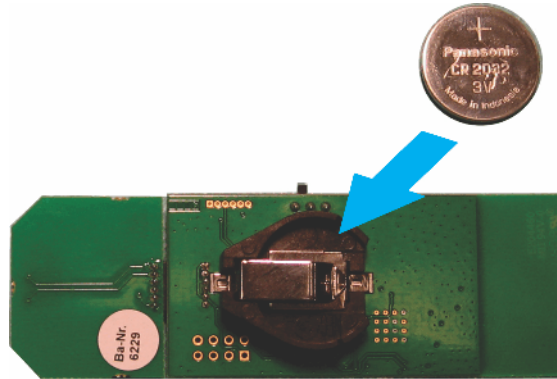

Figure 5. RF430F5978EVM Battery Assembly
1. Insert the CR2032 battery in the RF430F5978EVM module as shown in Figure 5.